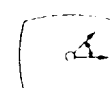

Figure 3
- (1) Set the CONTRAST control to its minimum position (fully counterclockwise). If necessary, adjust the BRIGHTNESS control.
- (2) Adjust the two 4-pole magnets to converge red and blue vertical and horizontal lines at the center of the screen.
- (3) Adjust the two 6-pole magnets to converge the red and blue lines on green (Figure 3).